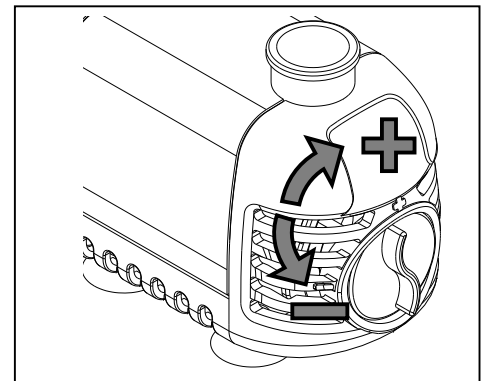

Fig. 3
3. Adjust the flow control to the preferred setting. Fig. 3